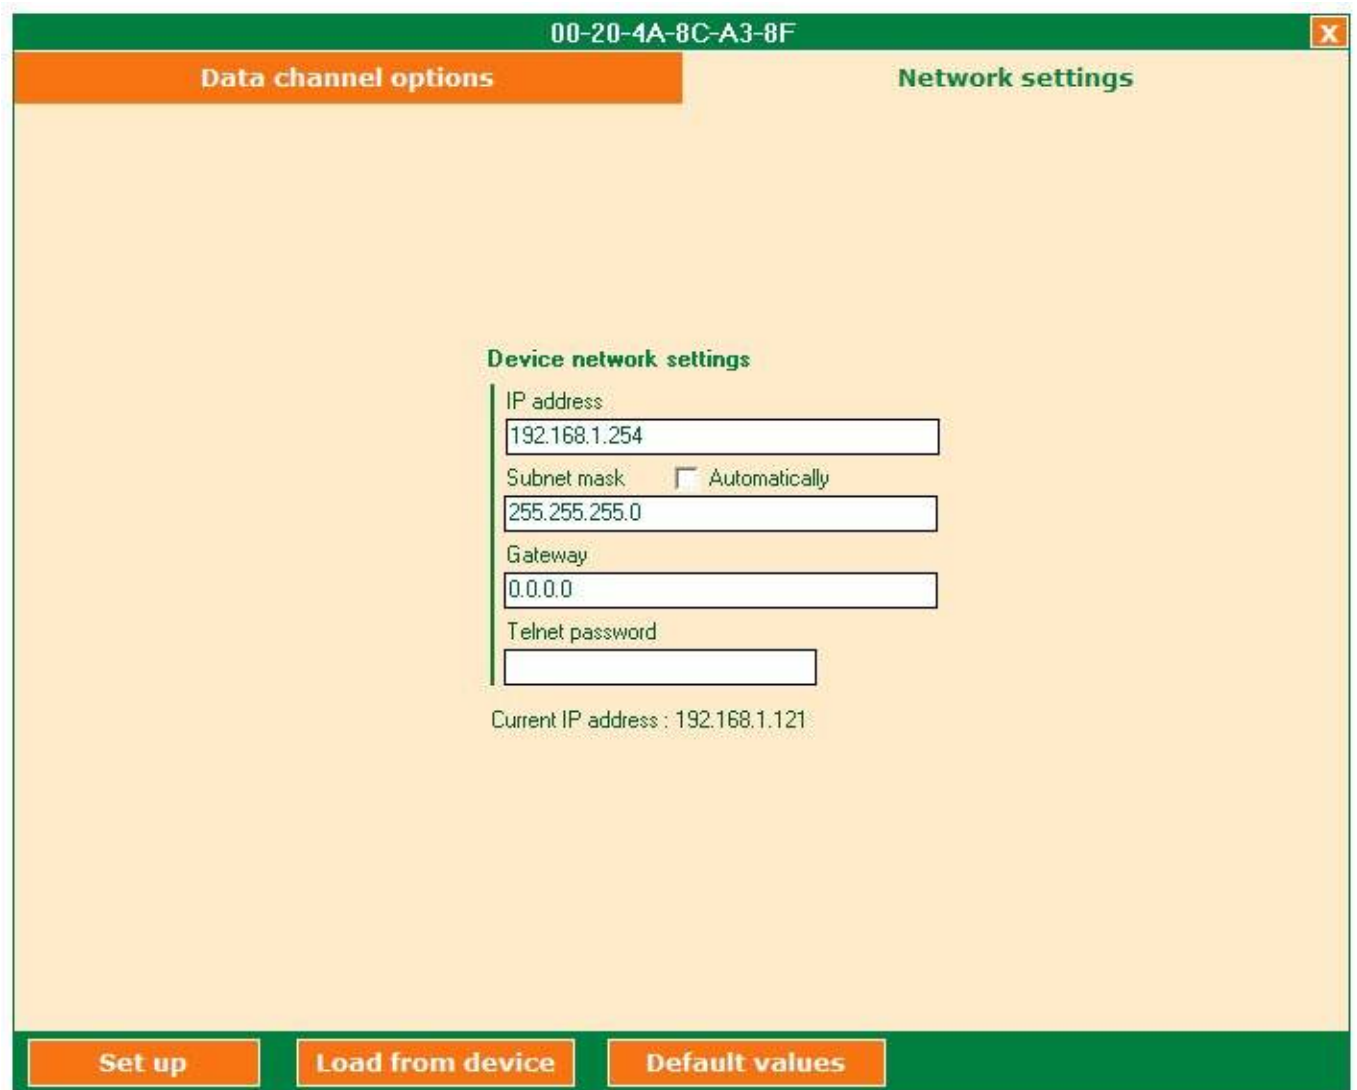

Fig. 10 – Network settings
When you click on the "Network settings" after connecting the converter, the setting window (Fig. 10) is displayed.
*Recommended references: Fig. 10*